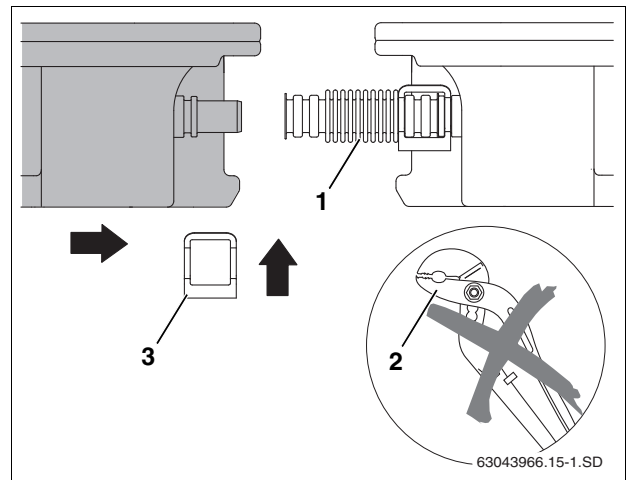

Fig. 43 Pushing second collector toward the first
- Do not use any tools, e.g. pliers (Fig. 43, [2]). These could render the corrugated pipe connector unusable.
- Push the second collector toward the first in such a way that the collector connections are pushed into the corrugated pipe connectors (Fig. 43, [1]) of the first collector. You may have to push the connector by hand the last 1/4" until it hits the stop. Verify it is engaged properly.
- Place second clip (Fig. 43, [3]) over the corrugated pipe connector and collector connection.